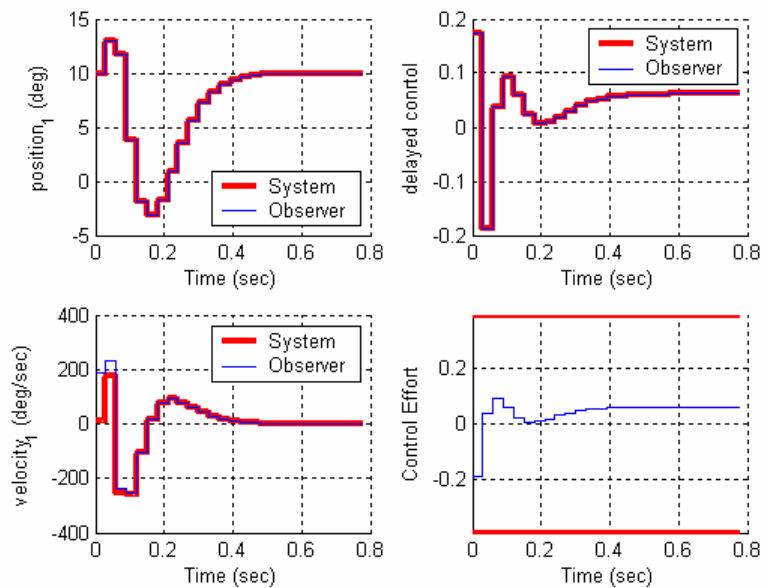

Figure 6. Results for problem 2d.
d) For the same conditions as part **c**, but with a sampling interval of 0.03 seconds, For a 10 degree step input you should get the graph shown in Figure 6. Turn in your plot.